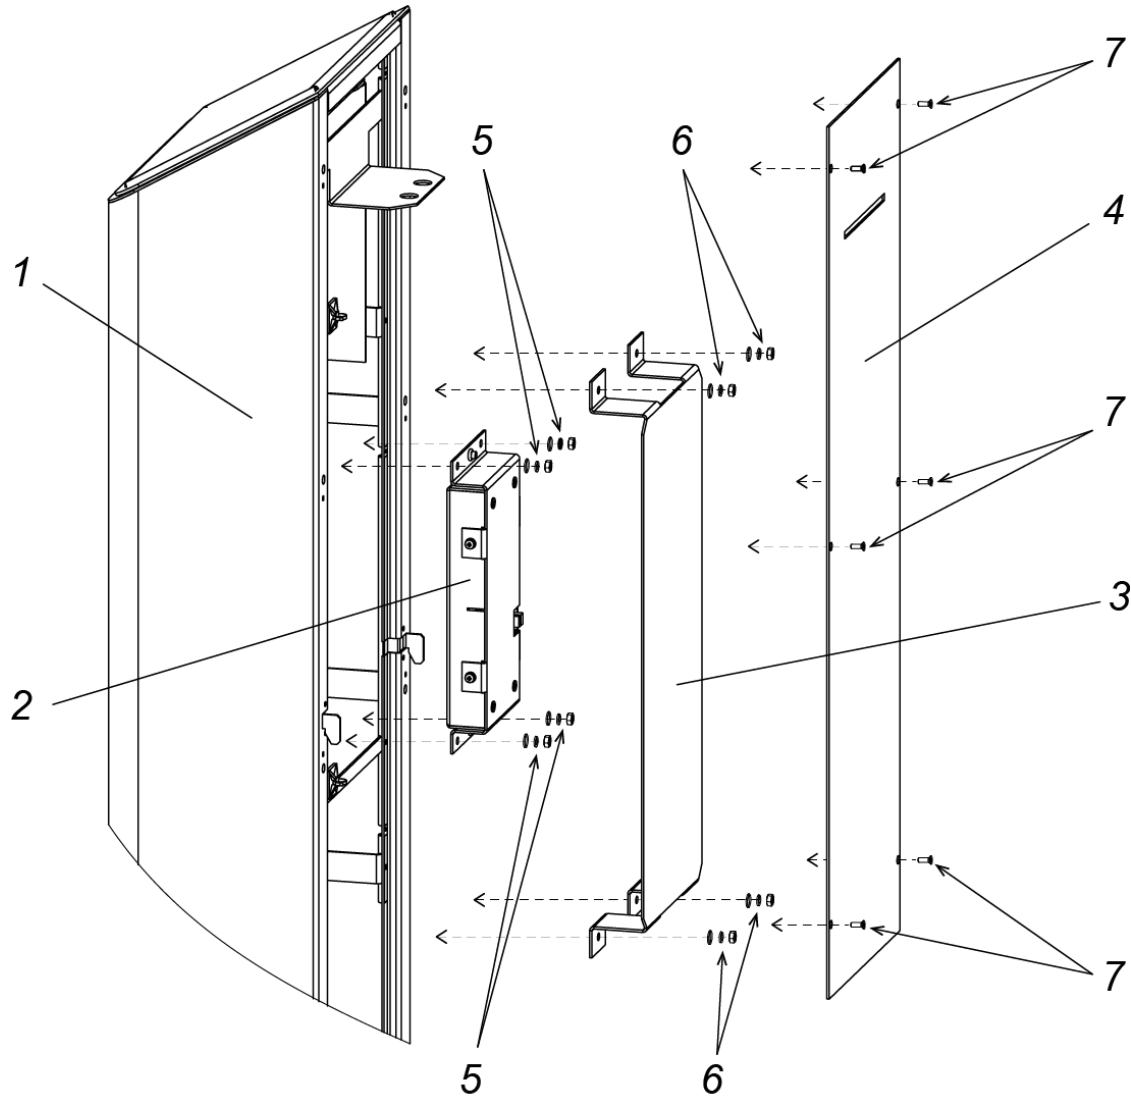

Figure 17. Constant indication block (standard side module)
- for the standard side module (Fig. 17):
- remove the plate (4, Fig. 17) by unscrewing 6 screws (7, Fig. 17),
- remove the bracket (3, Fig. 17) by unscrewing 4 nuts with washers (6, Fig. 17),
- remove the indication block (2, Fig.17) by unscrewing 4 nuts with washers (5, Fig.17).